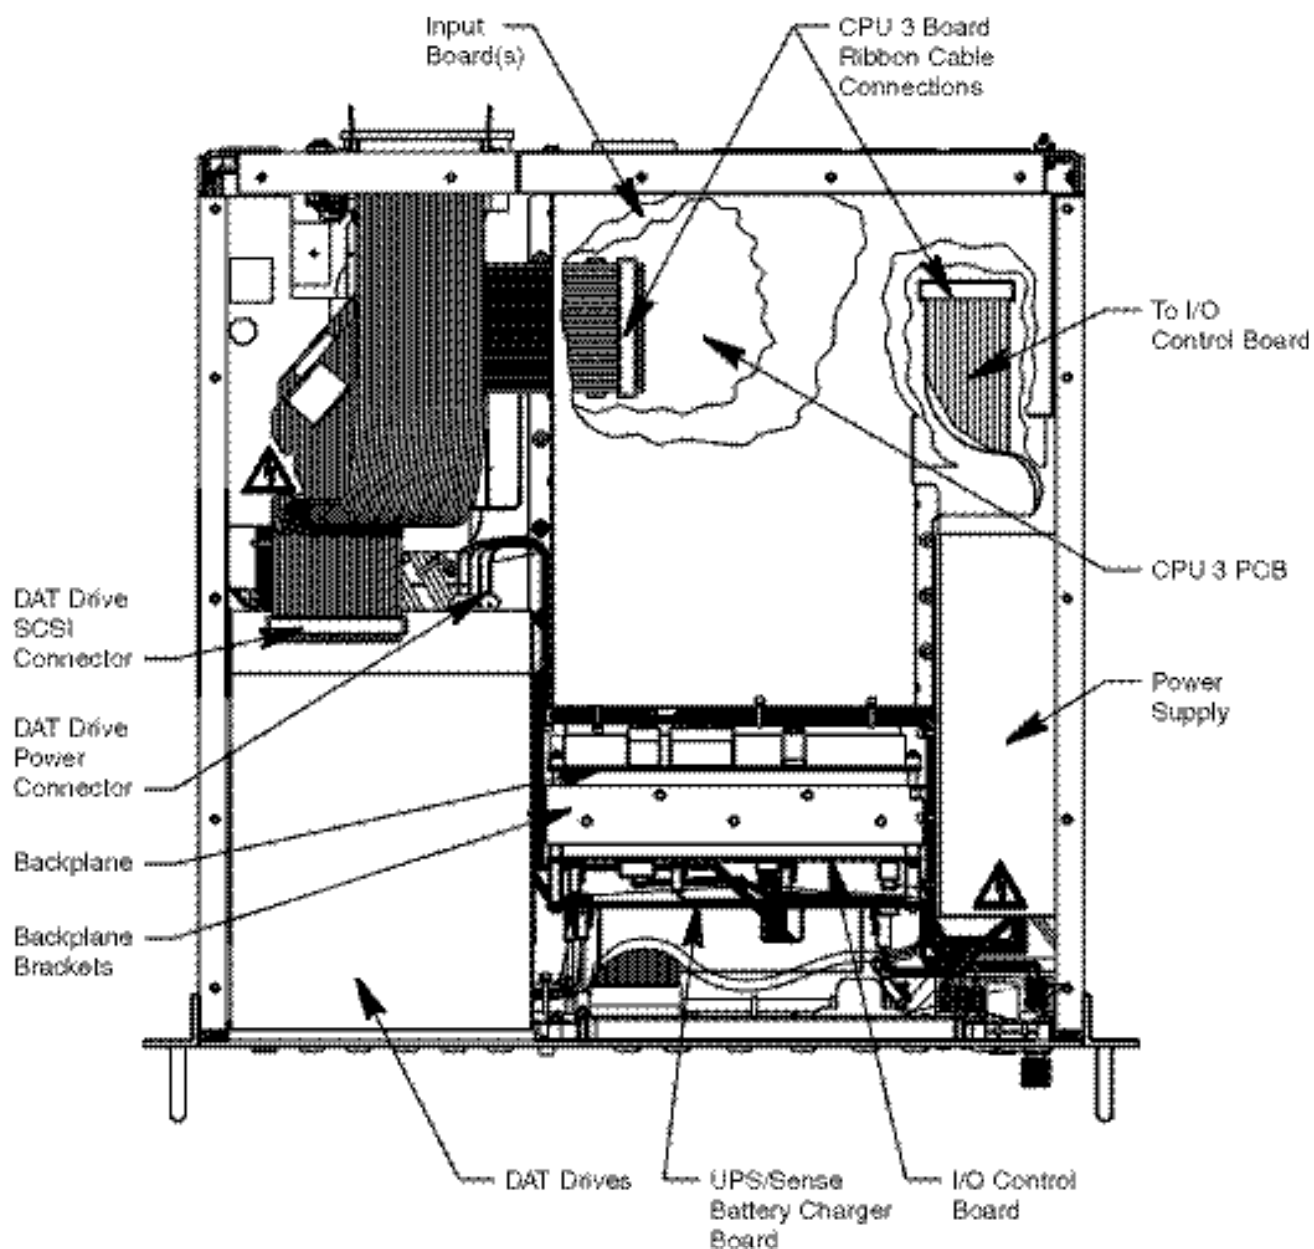

Figure 5-1. Top View of VR320 Major Assemblies
Because of the substantial weight and size of the VR320, and the fact that it is frequently possible to diagnose a problem to the board or module level, we recommend that you do not routinely return the entire unit to Eventide for service. In particular, the individual media drives are field-replaceable, as are the audio boards, the CPU board and the power supply. Other boards may be exchanged with a bit more effort. Figure 5-1 shows the top view of the VR320 major assemblies.
- (1) Disconnect AC power cord to VR320.
- (2) Remove top cover (para. 5-6).
- (3) Carefully remove all power and SCSI connectors from all drives (see Figures 5-1 and 5-5).